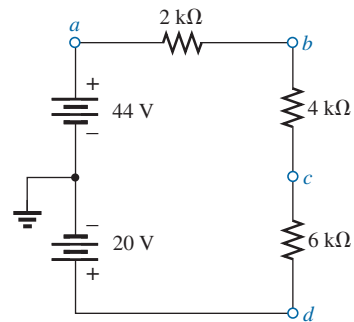

FIG. 5.124
41. For the network in Fig. 5.124, determine the voltages: